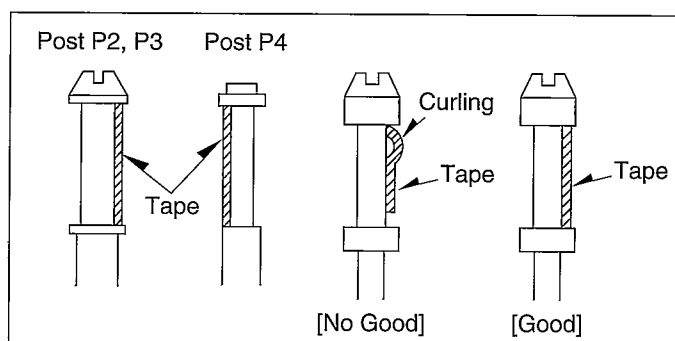

Fig. M5
- (5) Playback the cassette tape and make sure that the edges of the tape are not curling at the bottom or top end of the P2, P3, and P4 Posts as shown in Fig. M5.